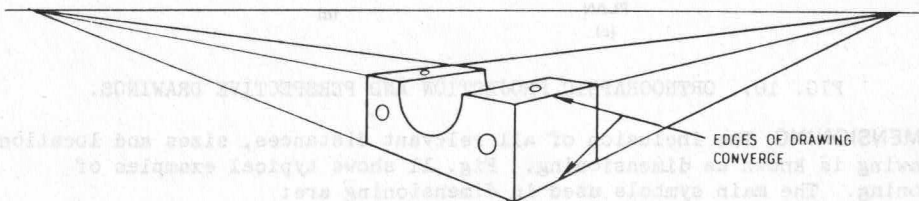

FIG. 8. PERSPECTIVE DRAWING.
- **PERSPECTIVE DRAWING.** The object is drawn as it appears to the eye. It is used to show the finished appearance of the article. The outstanding feature of this type of drawing is that parallel lines or edges of the subject are drawn converging as they recede from the view-point. This is shown in Fig. 8.